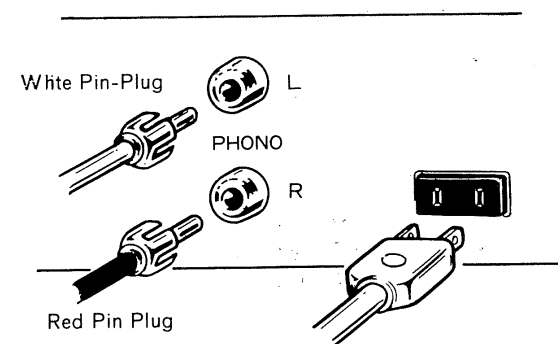

Figure 7. Connecting to an Amplifier
1. Connect the output plugs of RP-1100 to the input jacks of your amplifier marked PHONO or MAG (if marked otherwise, make sure they are magnetic phono inputs). See Figure 7.